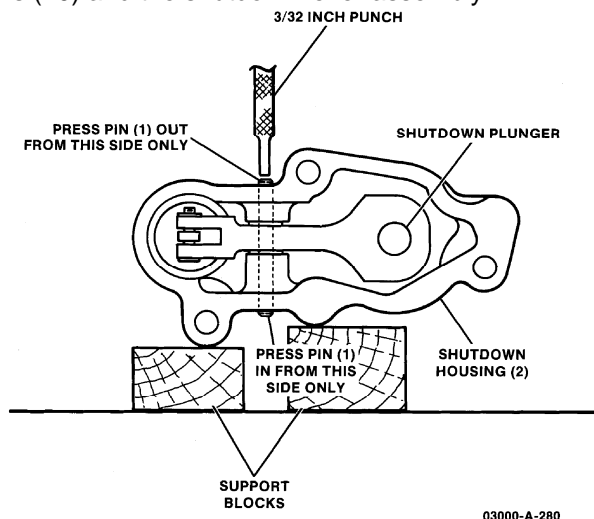

Figure 3-2. Removing Pin from Shutdown Housing
2. Remove the 3/8 inch hex head 1/4-20 screw (17) from the diode on the governor cover.
5. Remove three screws (4) and the Electric Shutdown Device from the governor cover.
6. Refer to Figure 3-2. Press pin (1) from the shutdown housing (2). Remove two washers (10) and the shutdown lever assembly.
1. Connect one end of shutdown link (13) to the solenoid plunger with headed pin (6), washer (11), and cotter pin (12) [old style solenoid], or using headed pin (20) only [new style solenoid].
2. Connect shutdown lever (8) to shutdown link (13) with headed pin (6), washer (11), and cotter pin (12).
3. Install shutdown plunger (9) in shutdown lever (8) with retaining ring (7). Be sure plunger moves freely in the lever.
4. Install the shutdown lever assembly in shutdown housing (2). Be sure washers (10) are on pin (1) on each side of lever (8). Start and press pin in from the side shown in Figure 3-2.
3. Install the shutdown lever assembly in the shutdown housing (2), making sure the spring seats into the spring seat. Be sure washers (10) are on pin (1) on each side of lever (23). Start and press pin in from the side shown in Figure 3-2.
4. Hold shutdown housing (2) against gasket (5) on a flat surface. Adjust set screw (3) until plunger (9) just contacts the flat surface, then turn the set screw counterclockwise 1/4 turn.
6. Apply thread locking compound to the threads of shutdown solenoid (25). Turn the solenoid clockwise until the shutdown lever touches the set screw. Turn the solenoid clockwise 1/4 additional turn. Tighten solenoid jam nut against shutdown housing (2). Torque to 45 to 55 lb-ft (61 to 75 N·m).
7. Install gasket (5) and the shutdown device on the governor cover. Secure with three screws (4).
8. Attach diode (16) (if used) to the governor cover with screw (17). Thread yellow and green wires up through the conduit fitting.